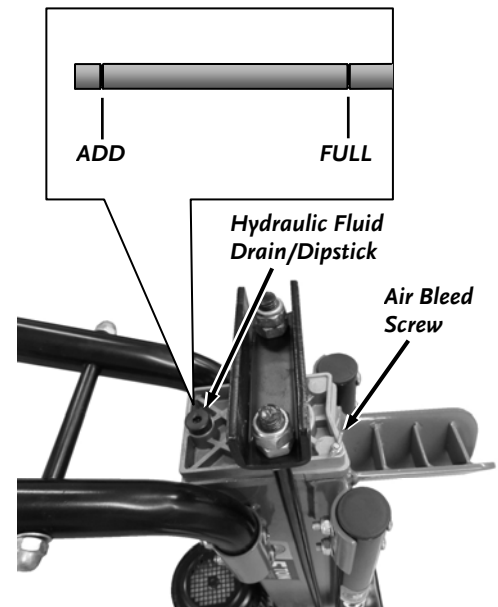

Figure 11
1. Check the hydraulic fluid level by tipping the machine up vertical on the Wheels and Control Lever Guard (place a block under the Control Lever Guard so the weight is not on the Control Lever). You may need to have someone support the Electric Log Splitter to prevent tipping over. Clean the area around the Hydraulic Fluid Fill/Drain Port (**Figure 11**) and then, using a 6mm Allen Wrench, unscrew and remove the Dipstick located in the Hydraulic Fluid Fill/Drain Port.